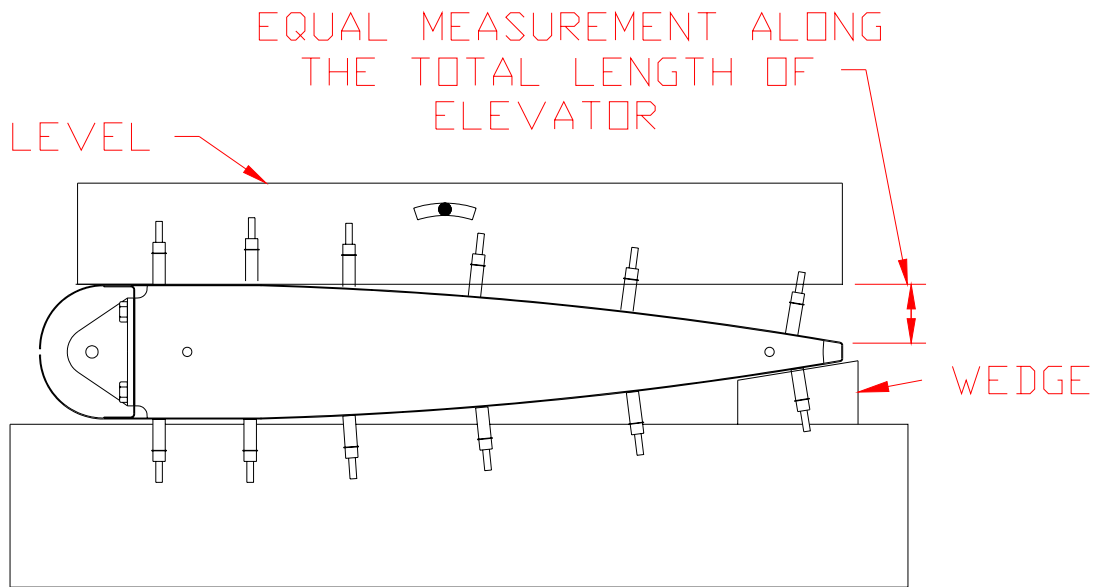

Figure 5.2.3
- 5) To ensure that the assembly is level, take a measurement from the bottom of the Trailing Edge to the table top. It should be the same distance at both ends. Use some small wood wedges under the Trailing Edge at each end to adjust the height. Figure 5.2.3.